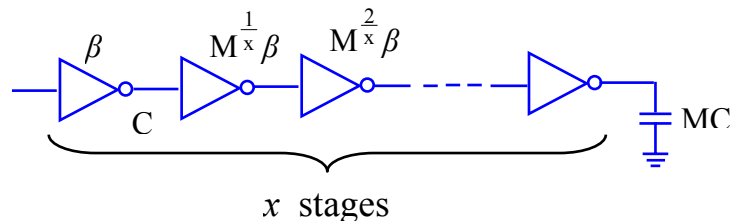

Figure Q1b
- (b) Consider a chain of inverters driving a large load as indicated in Figure Q1b where there are x stages and each inverter β increased by a factor $M^{\frac{1}{x}}$ which automatically raises input capacitive load of a particular stage by the same factor. Input load of the first stage is C . Given that the delay of an inverter with a size parameter β driving a capacitance C is t , derive an expression for the delay of each of the stages shown in Figure Q1b. Hence derive an expression for total delay T at the output and optimum number of stages that minimizes T .